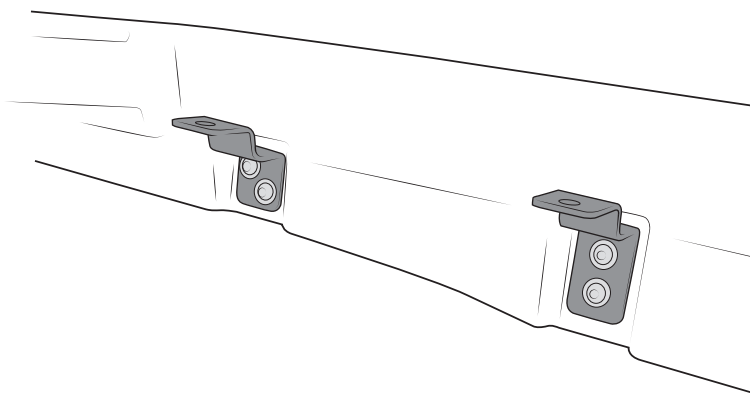

Figure 3.1
1. Install the mounting brackets to the snorkel. Center the mounts in the recessed areas in the snorkel and attach the brackets using the 1/4"-20 bolts and washers. Do not tighten completely at this time – just enough to allow some movement for adjustment (fig 3.1).